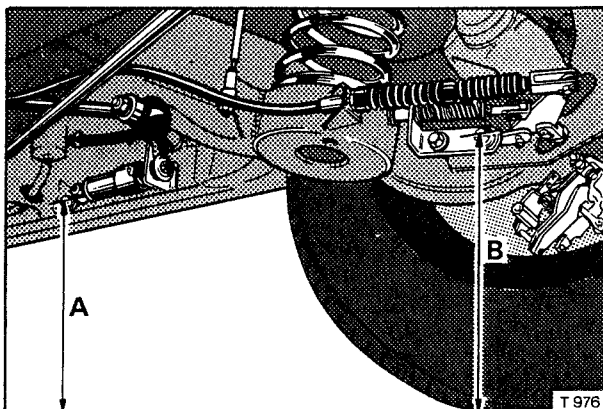

Fig. G25m Levelled height setting measurement positions
5. Measure the levelled height. The levelled height measurements are taken at the same points on the car as those for the rear standing height (see Fig. G25m). Calculate the levelled height by measuring the height 'A' from the level surface on which the car stands to the centre of the foremost bolt attaching the rear sub-frame mounting bracket to the body sill. Measure height 'B' from the level surface to the centre of the rearmost bolt attaching the parking brake linkage to the trailing arm. For the levelled height to be correct the dimension 'A' should be within a tolerance of between plus 6,35 mm. and minus 11,43 mm. (plus 0.250in. and minus 0.450in.) of the dimension at point 'B'. If the height of the car is outside of these tolerances the height control valve should be renewed.